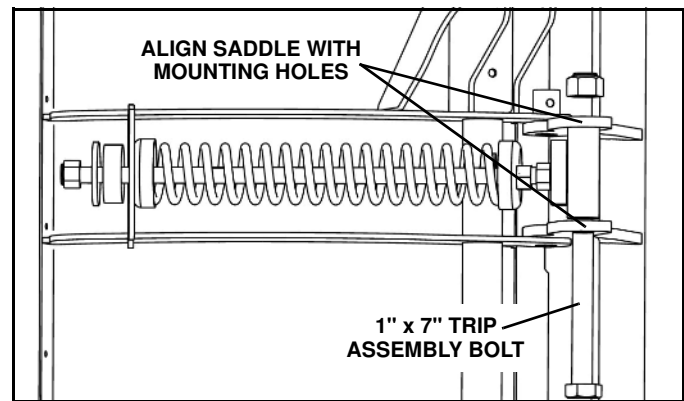

Figure 1-13
12. With an assistant and pry board or other suitable tool, apply pressure to the lower part of the saddle until it aligns with the mounting holes in the blade. (See Figure 1-13)